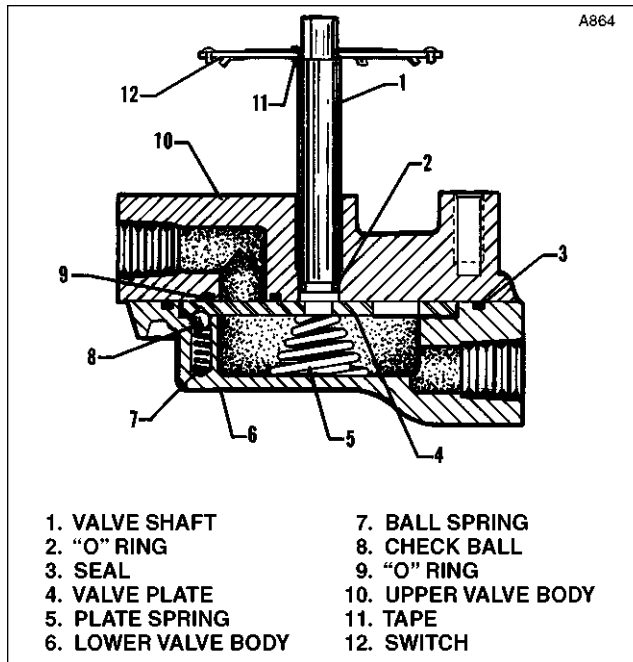

Figure 8-12. Five-Position Fuel Valve
- d. If fuel selector switches are installed, connect wiring and carefully slide the main switch (12, Figure 8-12 or 8-13) on the valve shaft (1). Should the main switch fit loose on the valve shaft, shim the flat of switch hole with 1/4 x 7/16 pressure sensitive adhesive tape (11). Spec. PPP-T-60B, Type III, Class I.